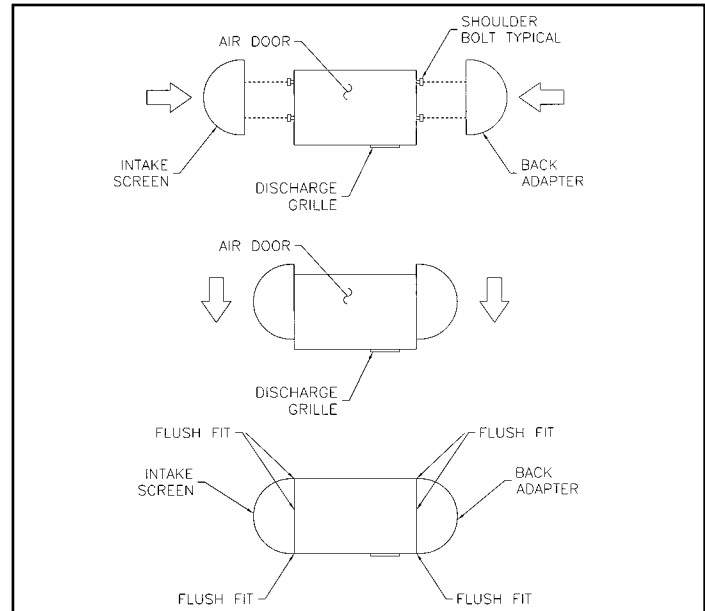

FIGURE 15 - Attaching Intake Screen or Back Adapter
- M. Attach the perforated intake grille on the ¼" shoulder bolts of the unit. **See Figure 15.** While holding the grille level with the unit, align the keyhole slots with the shoulder bolts. Press the grille firmly against the unit and push down until the grille rests flush with the bottom of the unit.